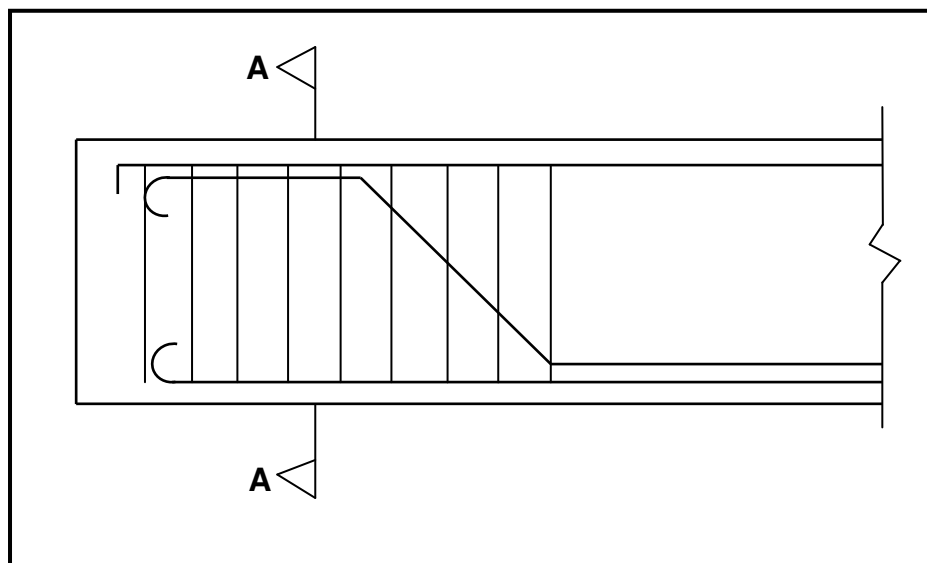

FIGURE 6.6
- 6.6 FIGURE 6.6 below shows part of a rectangular concrete beam that is reinforced with two main bars, two anchor bars and one shear bar.